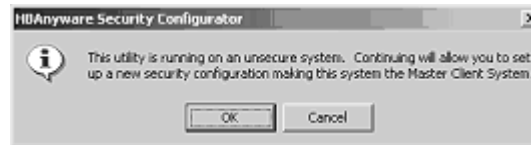

Figure 46: HBAnyware Security Configurator “Unsecure System” message
1. Start the HBAnyware Security Configurator for the first time in an unsecured environment. The computer from which you run the Configurator becomes the MSC. The “Unsecured System” message appears (see Figure 46).